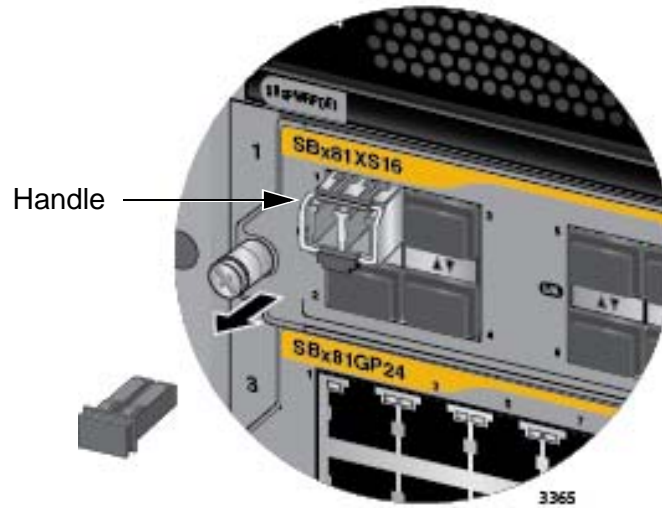

Figure 111. Verifying the Position of the Handle on the Transceiver in the AT-SBx81XS16 Line Card
4. Before connecting the cable, verify the position of the handle on the transceiver. If the transceiver is in an odd numbered slot, the handle should be in the upright position, as shown in Figure 111 on page 184. If the transceiver is in an even numbered slot, the handle should be in the down position.